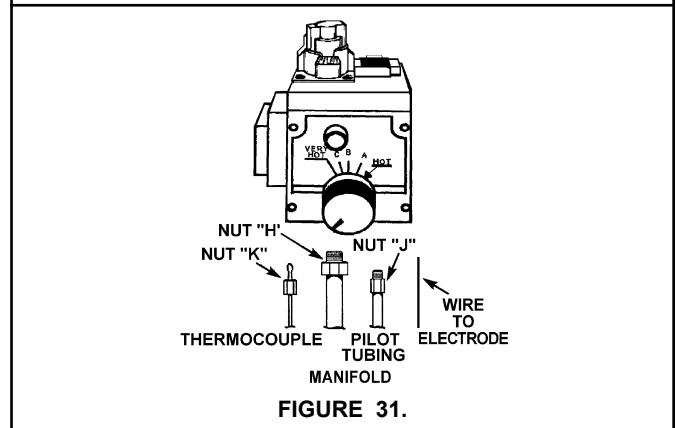
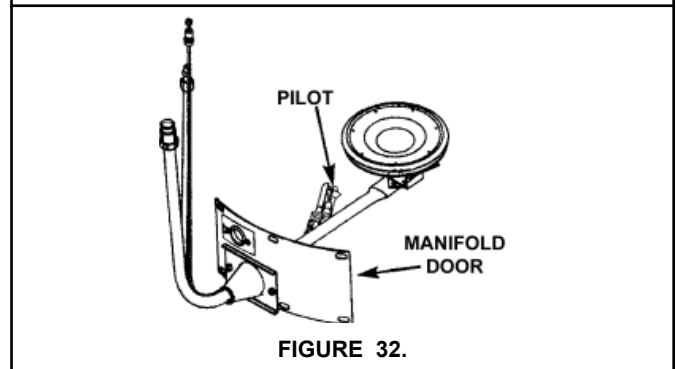
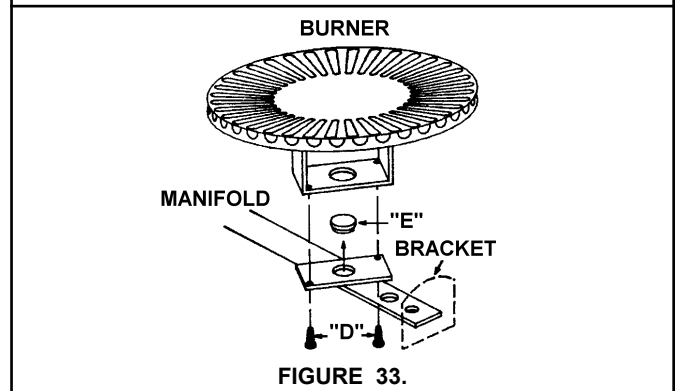
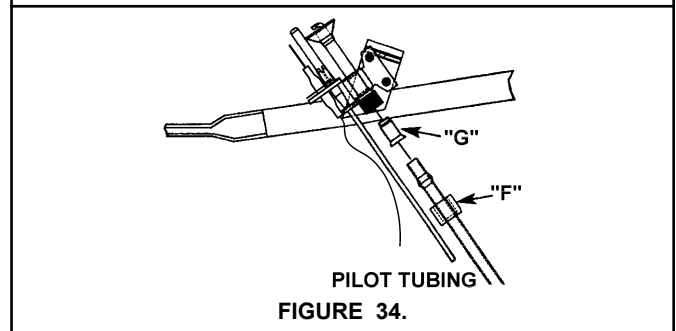

FIGURE 31.
FIGURE 32.
FIGURE 33.
FIGURE 34.
Step 3. Remove burner assembly from water heater control by first removing 6 screws holding inner door to heater, then loosening 3/4" nut "H" holding burner assembly to control, see figures 31 and 32. Loosen pilot tube nut "J" and thermocouple nut "K" at control. Disconnect wire to Piezo Igniter.
Step 4. Remove screws "D" disengaging manifold from burner, see Figure 33 page 19.
Step 5. Remove orifice "E", see Figure 34 page 19 using 3/8" wrench. Install orifice marked "L.P." found in the bag into manifold. Tighten securely. Secure burner to manifold with screws "D".
Step 6. Loosen pilot tube nut "F", see Figure 34 page 19. Remove orifice "G" and replace with red colored orifice found in bag. Reinstall nut "F" and tighten securely.
Step 7. Make sure all connections are tightened securely, and reinstall burner assembly into water heater. Position end of manifold inside bracket as shown in Figure 33 page 19. Reinstall manifold into control and tighten 3/4" nut ("H") securely. Recheck to see that end of manifold is still inside bracket as shown in Figure 33 page 19. Reinstall pilot tubing and thermocouple into control, see Figure 31 page 19. Connect wire to Piezo Igniter. Reinstall inner door using the 6 screws removed in Step 3.
Step 12. The pilot is located in front of the burner, see Figure 32 on page 19.
Step 14. Push in control knob all the way and hold down. Immediately light the pilot using the Piezo Igniter. Continue to hold control knob in for about one (1) minute after the pilot is lit. Release knob and it will pop back up. Pilot should remain lit. If it goes out, repeat Steps 9 through 12.
Step 15. Check for gas leaks with only pilot flame burning using soapy water solution, not a match or open flame. Check for gas leaks at fittings "F" and "G", see Figure 34 page 19 and at fittings "J", see Figure 31 page 19.
Step 19. With a soapy water solution, not a match or open flame, check for gas leaks at gas connection "H", see Figure 31 page 19. If gas leak occurs, turn off immediately by shutting off gas cock at inlet to control, or by turning gas control knob (↻) to "PILOT" pushing down and turning to "OFF". Repair gas leak as necessary, and repeat Steps 9 through 19.